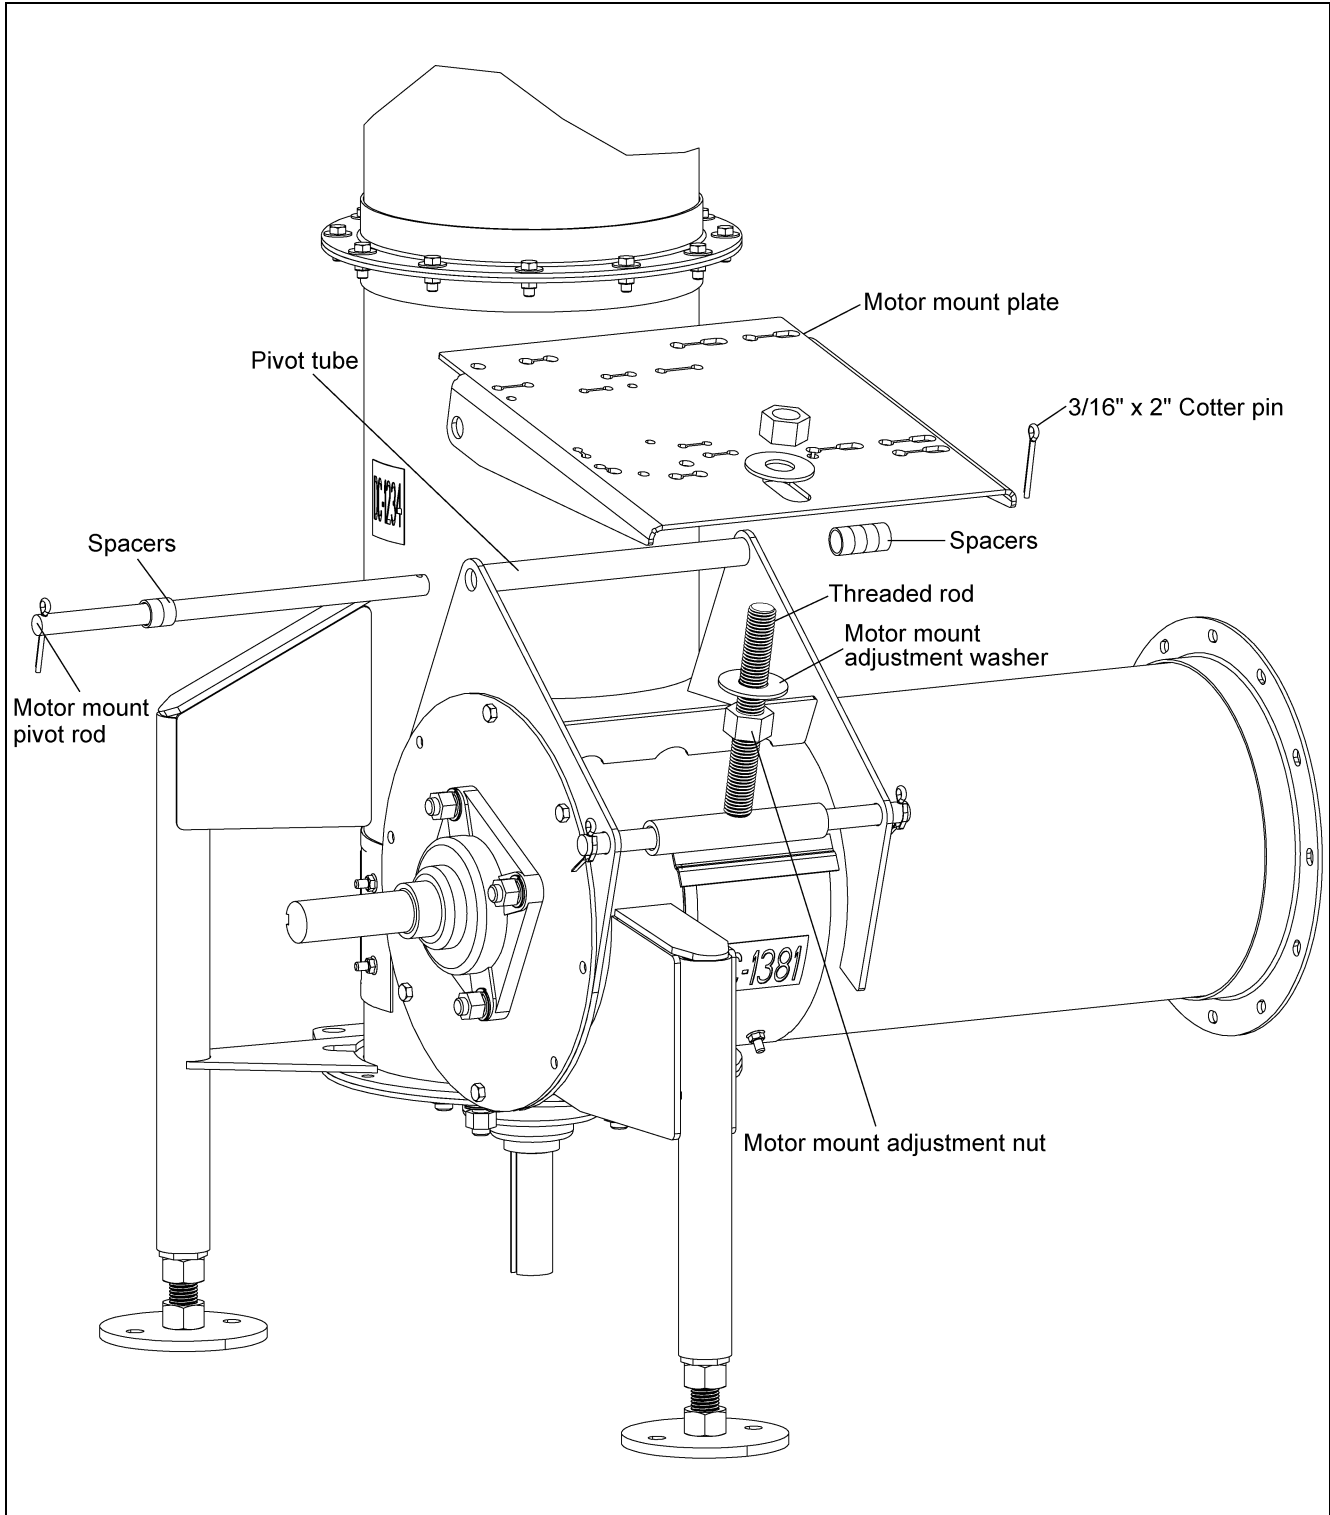

Figure 3H
- B. Once the nut and washer are in place, slip the *motor mount plate* over the adjuster and align the pivot holes with the pivot tube. (See *Figure 3H below* and *Figure 3I on Page 17.*)